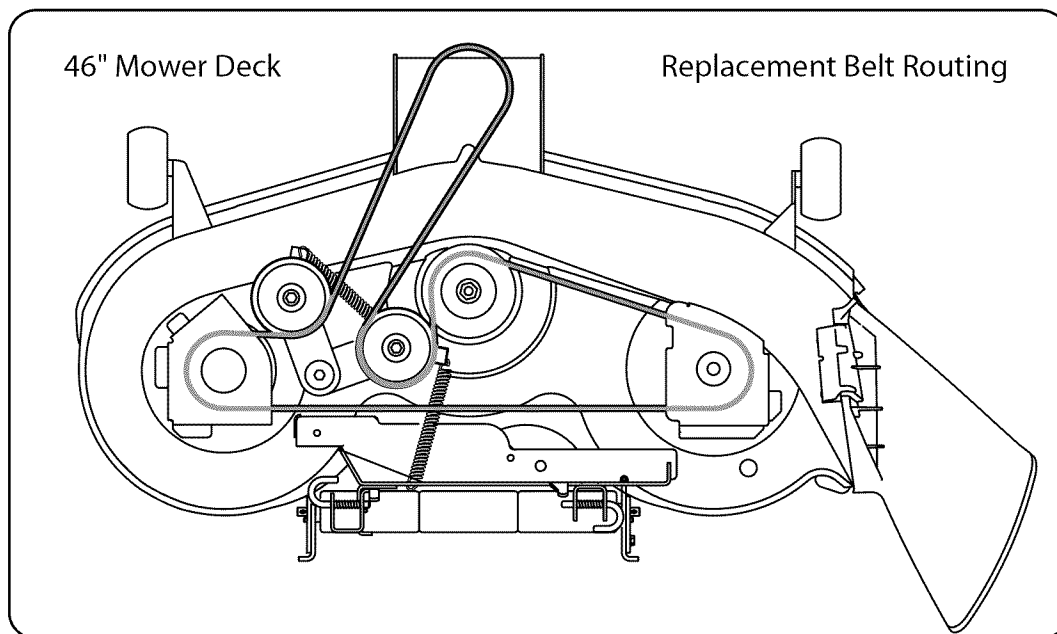

Figure 26 Replacement Belt Routing 46" Mower Deck
- **46" Mower Deck ONLY** - Remove the old belt from the deck. Install the new belt around the spindle and idler pulleys as shown in Figure 26.